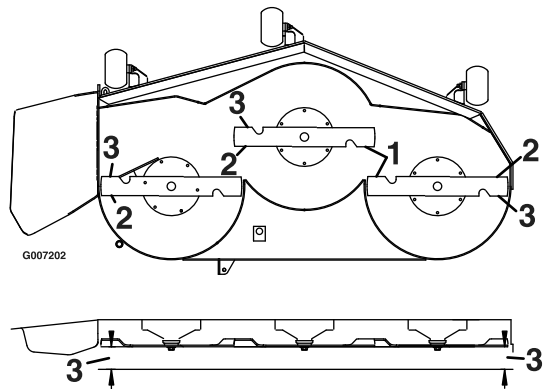

Figure 43
5. Measure between the outside cutting edges and the flat surface (Figure 43). If both measurements are not within 3/16 inch (5 mm), an adjustment is required; continue with this procedure.
9. Carefully rotate the blades side to side (Figure 43).
10. Loosen the leveling adjust locking nuts (item 4) on all four corners so that the deck is sitting securely on all four blocks. Make sure that the deck hangers are all the way down (at the top of the slot) and the deck lift foot lever is pushed back against the stop, then tighten the four leveling adjust locking nuts